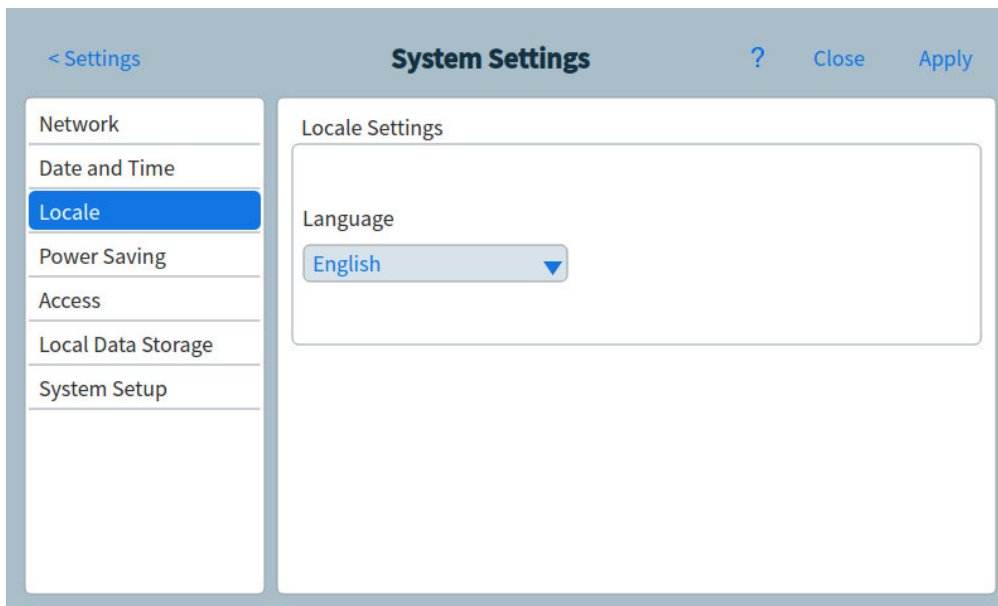

Figure 58. Locale Settings page
- 1 From the System Settings page, select the **Locale** page selection button. The Locale Settings page appears. See Figure 58.